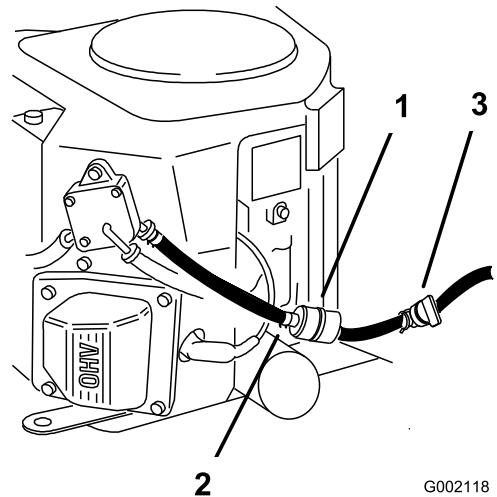

Figure 59
5. Close the fuel-shutoff valve under the seat (Figure 59).
6. Squeeze the ends of the hose clamps together and slide them away from the filter (Figure 59).
8. Install a new filter and move the hose clamps close to the filter (Figure 59).